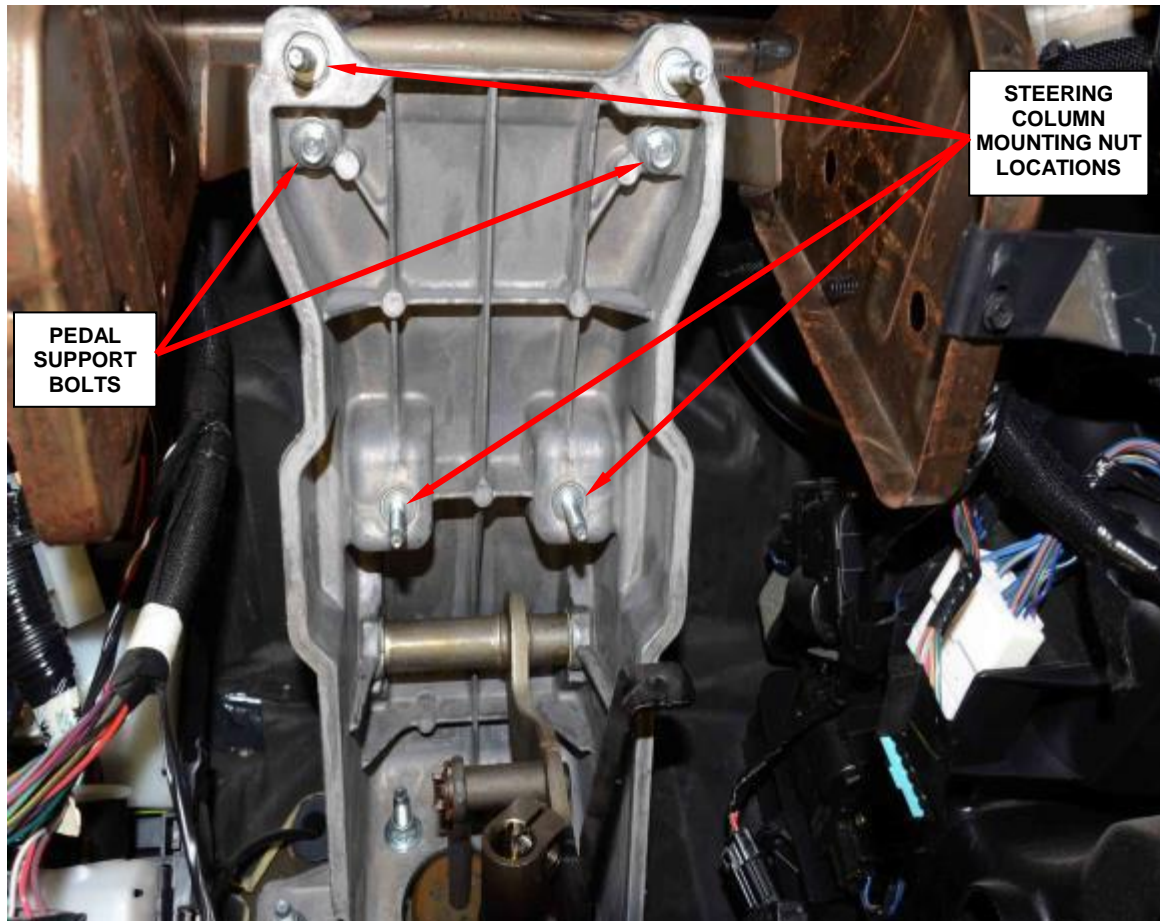

Figure 57 – Pedal Support Bolts
18. Remove the bolts from the pedal support (Figure 57).